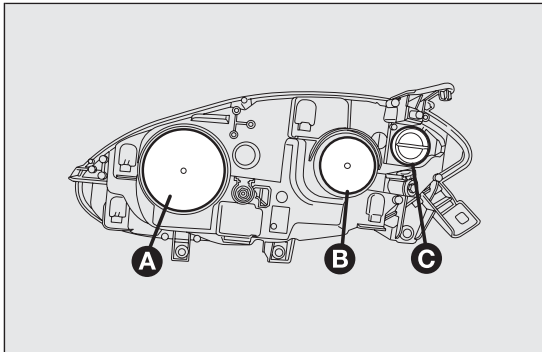
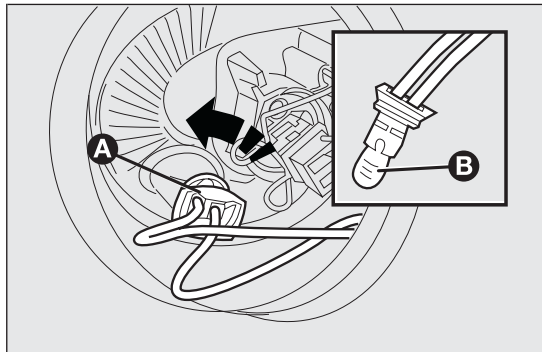

fig. 157
fig. 159
- remove the protective cover B fig. 157;
- refit the protective cover A fig. 157.
- remove the protective cover A fig. 157;
- turn the bulb holder A fig. 159 anticlockwise and remove it;
- refit the new bulb, put the bulb holder A fig. 159 back into place and then refit the protective cover B fig. 157 properly.
- refit the protective cover B fig. 157.
- rotate the protective cover C fig. 157 anticlockwise;